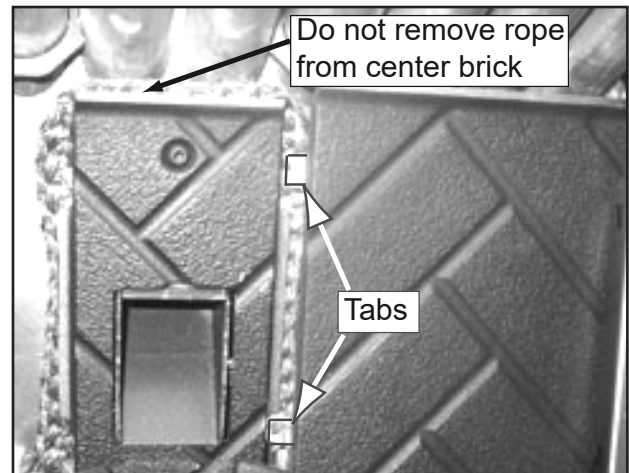

Figure 29.4
1. Place right brick in behind the right bracket and then slide to the left so the tabs are behind the center brick (**Figure 29.4**).